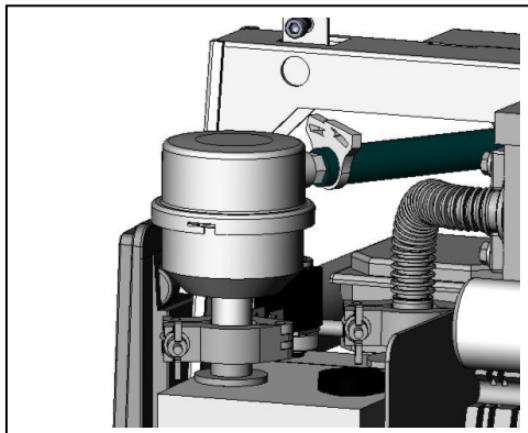

Figure 3: Oil Mist Eliminator After Install
10. Reconnect the hose to the barbed fitting and secure using a hose clamp. The unit appears as in Figure 3: Oil Mist Eliminator After Install.